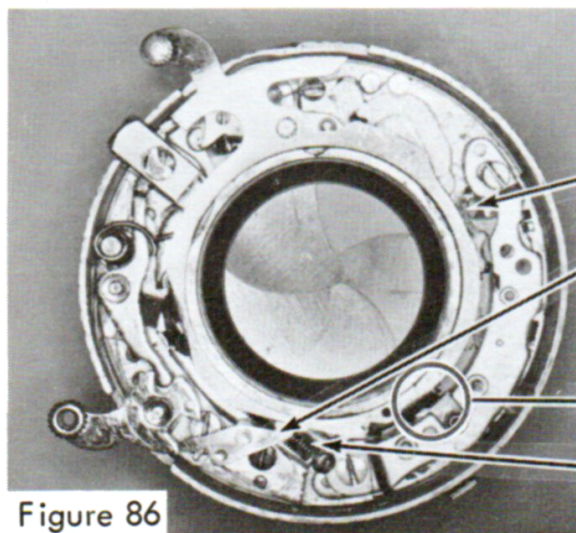

Figure 86
**CAUTION! DO NOT** attempt to set the shutter at this time with the speed cam removed. Orient your shutter once again with the nameplate locking cam cutout positioned at 12 o'clock. Locate and identify the various parts of the shutter which have already been described, Fig. 86.